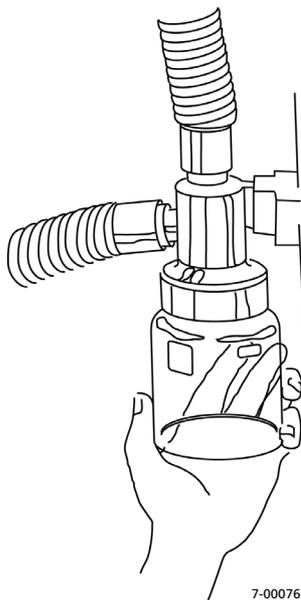

Figure A-1. Removing/replacing the collector vial
2. Empty the collector vial, referring to Figure A-1.